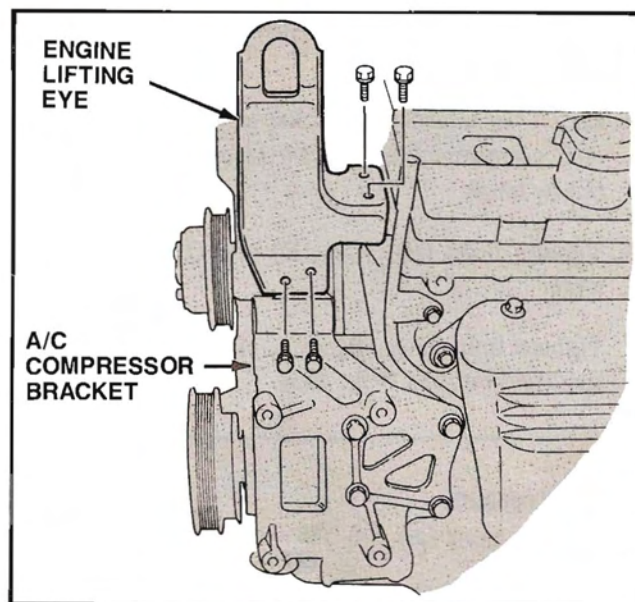

Figure 151. A/C Compressor Bracket
1. Install the A/C compressor bracket to the cylinder block and tighten the four retaining bolts to 36-55 N·m (27-41 lb-ft) (Fig. 151).